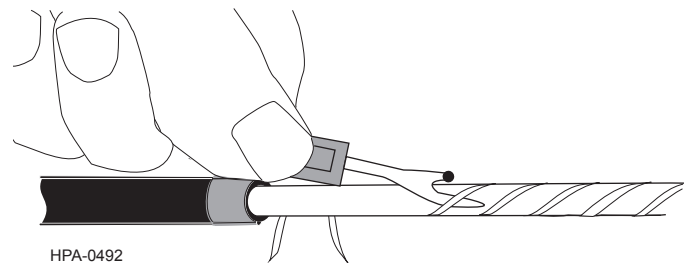

Figure 29
5.9 Use a seam ripper every 2 in (5 cm) to cut the single binding tape that secures the water blocking tape to the cable core (Figure 29).